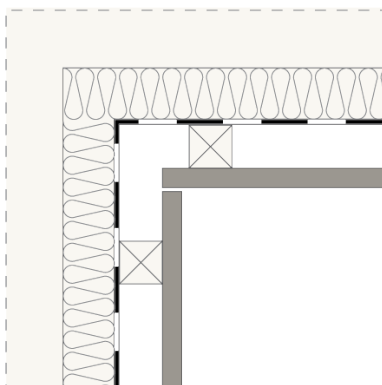

Fig. 3
- by joining the boards edge-to-edge at the inner corner (see Fig. 3)